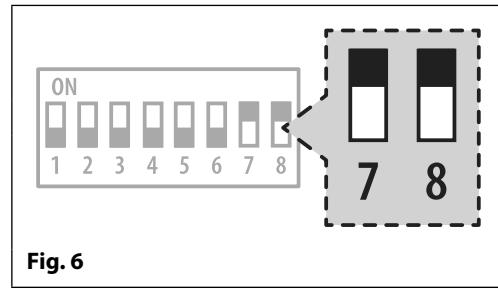

Fig. 6
2. Set dip-switches 7 and 8 to the **ON** position, see Fig.6.